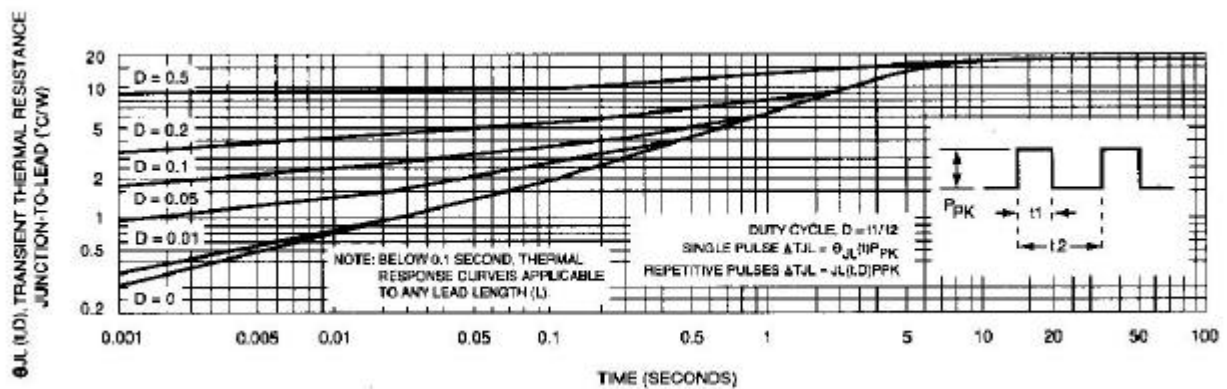
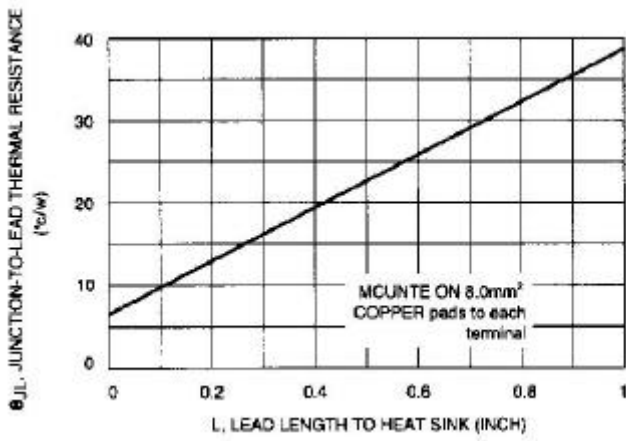
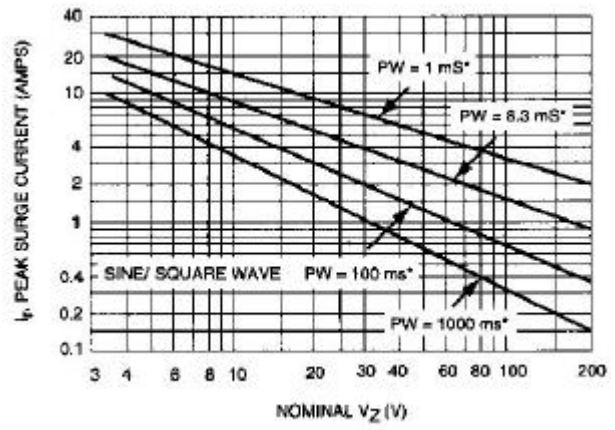
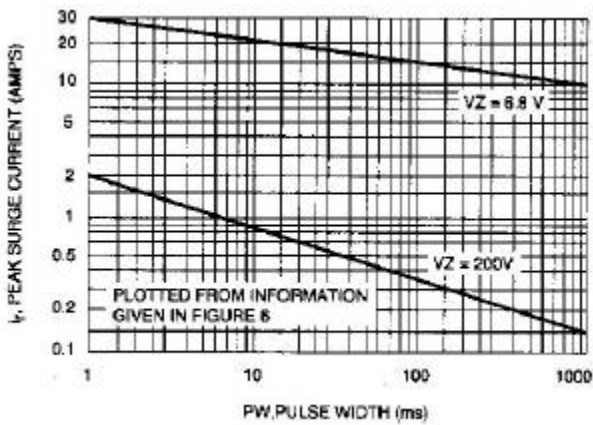

Fig. 3-TYPICAL THERMAL RESPONSE
Fig. 4-TYPICAL THERMAL RESISTANCE
Fig. 5-MAXIMUM NON-REPETITIVE SURGE CURRENT VERSUS NOMINAL ZENER VOLTAGE(SEE NOTE 3)
Fig. 6-PEAK SURGE CURRENT VERSUS PULSE WIDTH(SEE NOTE 3)
3. SURGE CURRENT (I_r) - Surge current is specified as the maximum allowable peak, non-recurrent square-wave current with a pulse width, PW, of 8.3 ms. The data given in Figure 5 may be used to find the maximum surge current for a square wave of any pulse width between 1 ms and 1000ms by plotting the applicable points on logarithmic paper. Examples of this, using the 6.8v and 200V zeners, are shown in Figure 6. Mounting contact located as specified in Note 3. ($T_A=25$).
θ_{JL} is the increase in junction temperature above the lead temperature and may be found from Figure 3 for a train of power pulses or from Figure 4 for dc power.
Data of Figure 3 should not be used to compute surge capability. Surge limitations are given in Figure 5. They are lower than would be expected by considering only junction temperature, as current crowding effects cause temperatures to be extremely high in small spots resulting in device degradation should the limits of Figure. 5 be exceeded.